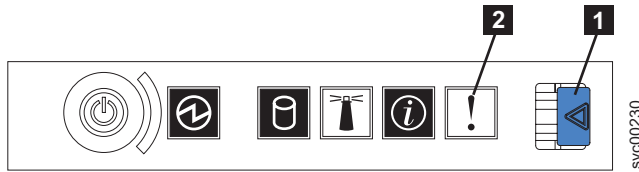

Figure 96. SAN Volume Controller 2145-8G4 operator information panel
1. **Is the Error LED, shown in Figure 96 on page 418, on the SAN Volume Controller 2145-8G4 operator panel illuminated or flashing?**